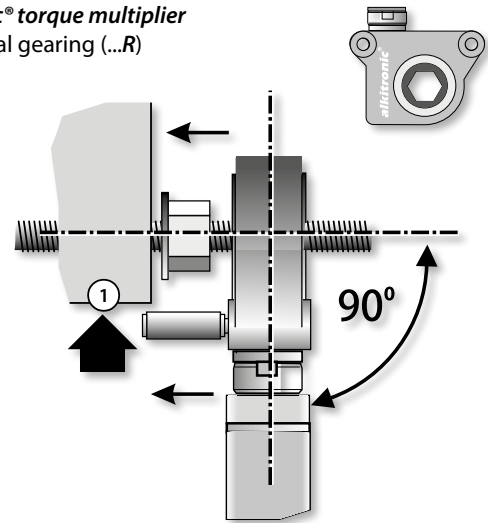
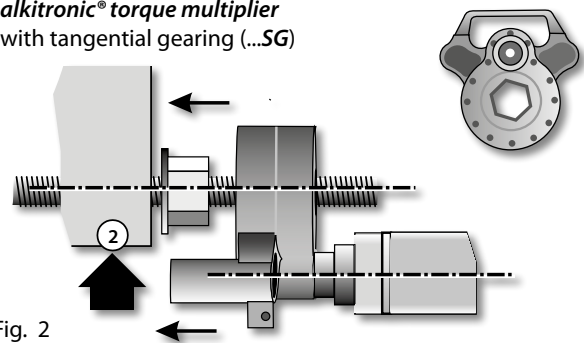

Fig. 1
Fig. 2
- A sure, stable counter-mount (Fig. 1/1)/(Fig. 2/2) must be ensured.
- keep the *alkitronic*® EF-R multiplier in a 90 degrees angle to the bolt (Fig. 1).
- keep the *alkitronic*® EF-SG multiplier in parallel line to the bolt (Fig. 2).